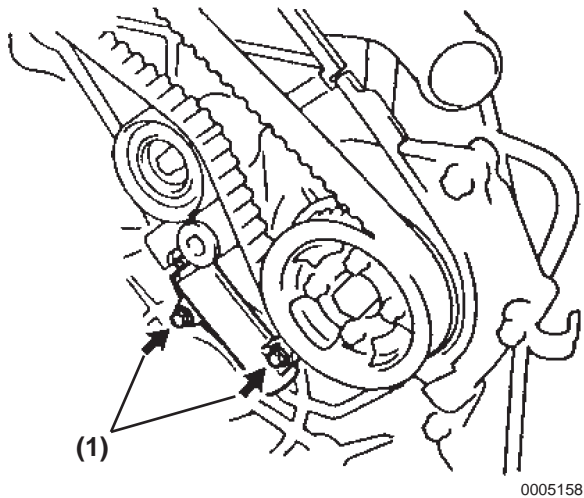

Figure 5-160
- (b) Alternately loosen the two bolts **(Figure 5-160, (1))** to remove them, and then remove the timing belt tensioner.